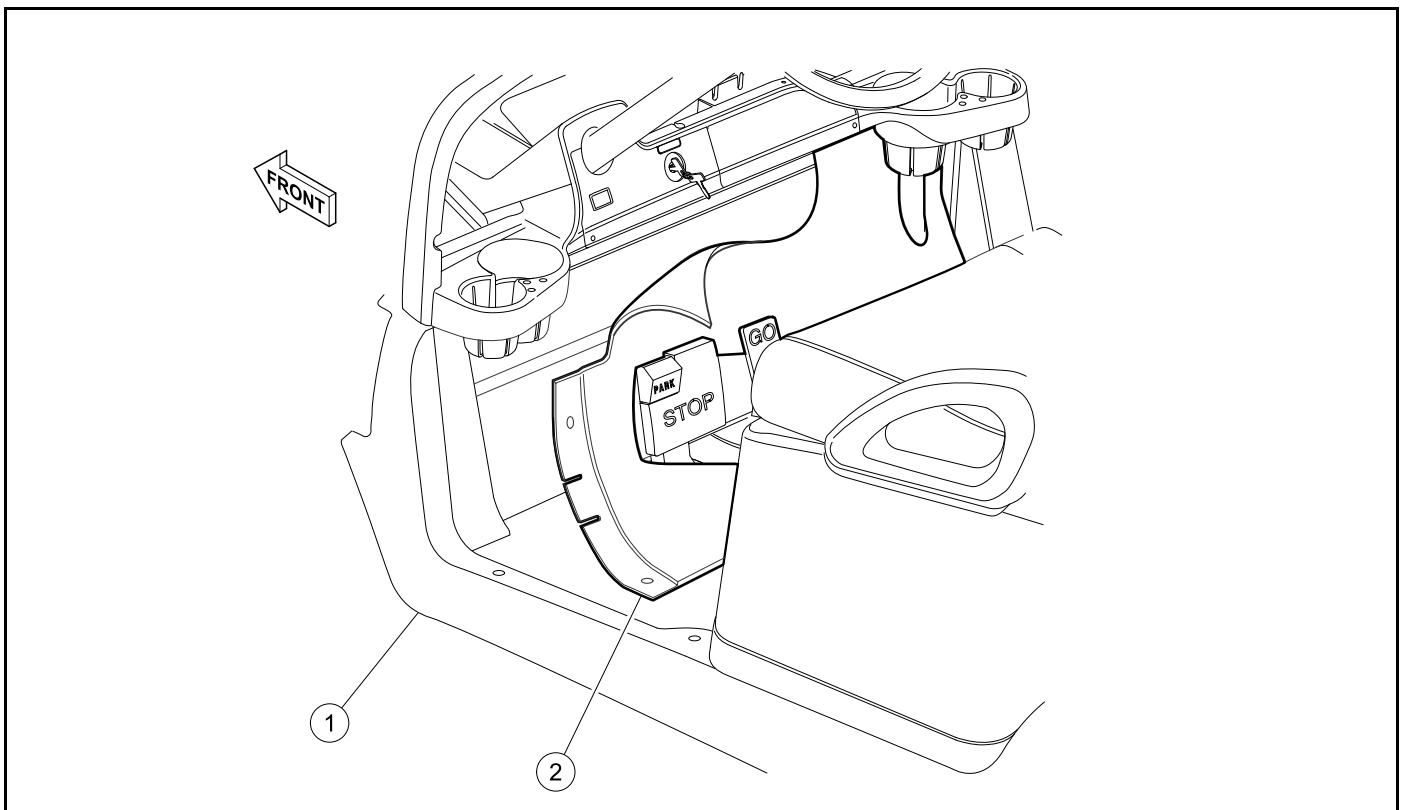

Figure 5-1
2. Remove the floor mat retainer (1) (**Figure 5-1**).